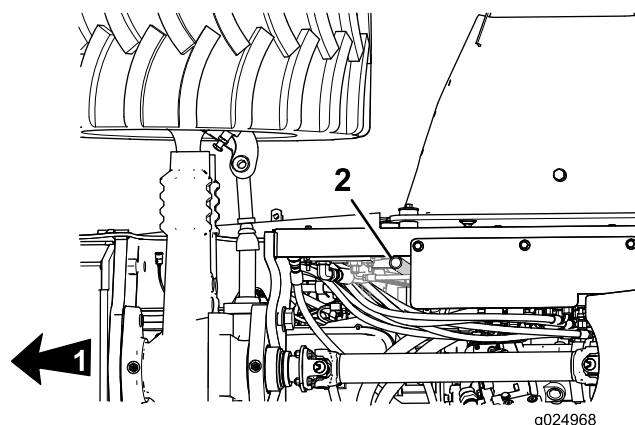

Figure 67
1. Inspect the crankcase breather tube (Figure 67) for sludge, debris, or ice inside the tube.